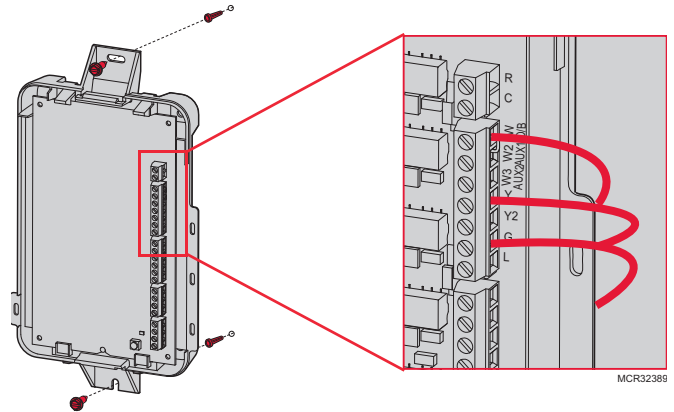

Fig. 9.
2. To wire the EIM, strip 1/4” insulation, then insert wires (see Fig. 9). For wiring diagrams, see “Wiring” beginning on page 135.